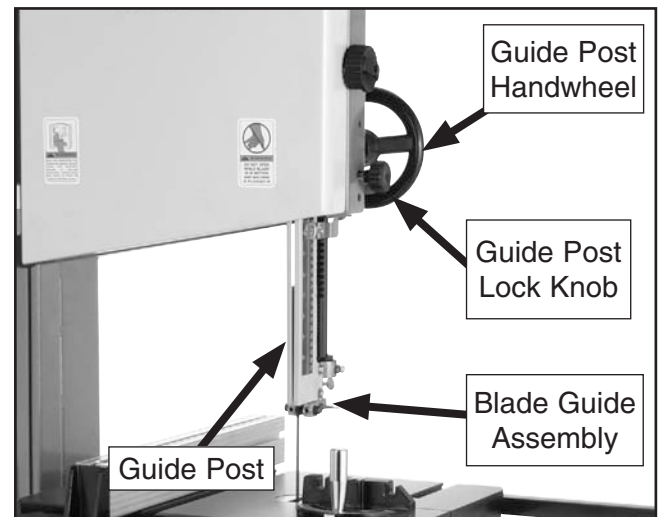

Figure 31. Guide post controls.
The guide post (shown in **Figure 31**) connects the upper blade guide assembly to the bandsaw. The guidepost allows the blade guide assembly to move up or down to be as close to the workpiece as possible. In order to cut accurately and safely, the bottom of the blade guide assembly must be no more than 1" from the workpiece at all times—this positioning provides the greatest blade support and minimizes the amount of moving blade exposed to the operator.
- Loosen the guide post lock knob shown in **Figure 31**.